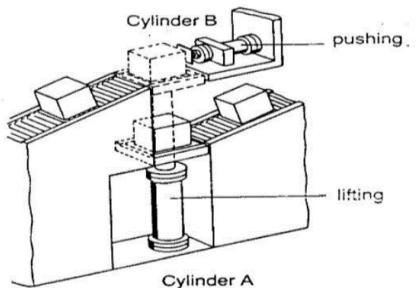

Figure 2(b) / Rajah 2(b)
- (b) Packages arriving on a roller-conveyor (Figure 2(b)) are lifted by a pneumatic cylinder A and pushed onto another conveyor by a second cylinder B. The problem requires that cylinder B returns only when A has reached the rear end position.